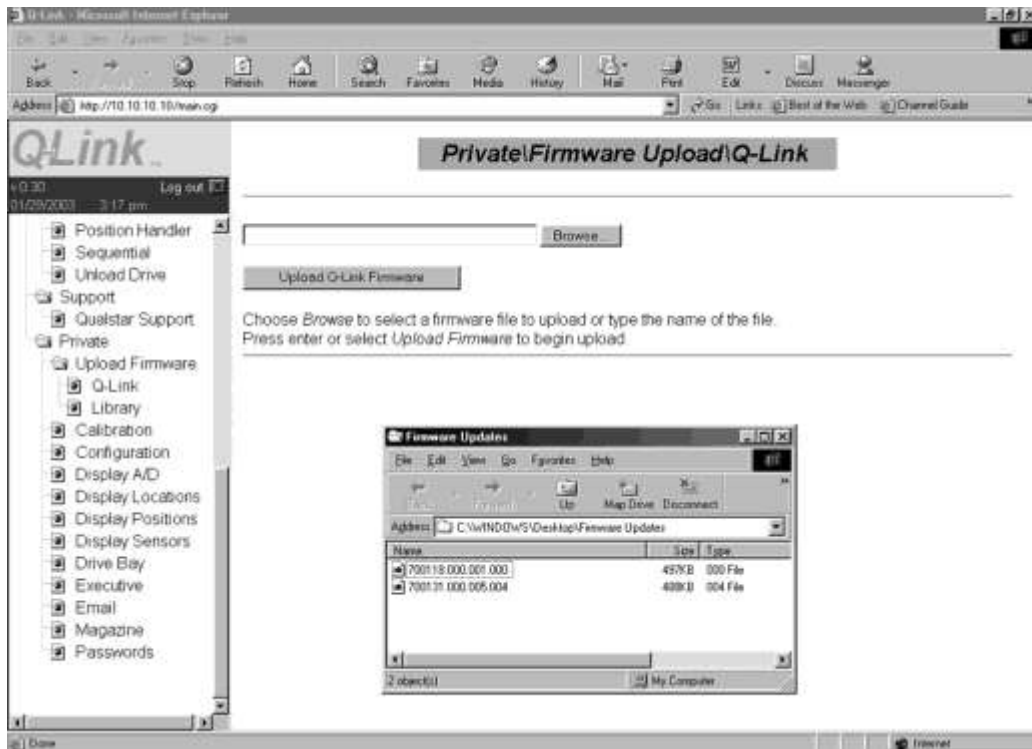

Figure 11-8 Sample of the Q-Link Firmware Upload Screen
1. Access the firmware file by either clicking on the Browse button or typing the file path to the firmware file. See Figure 11-8.